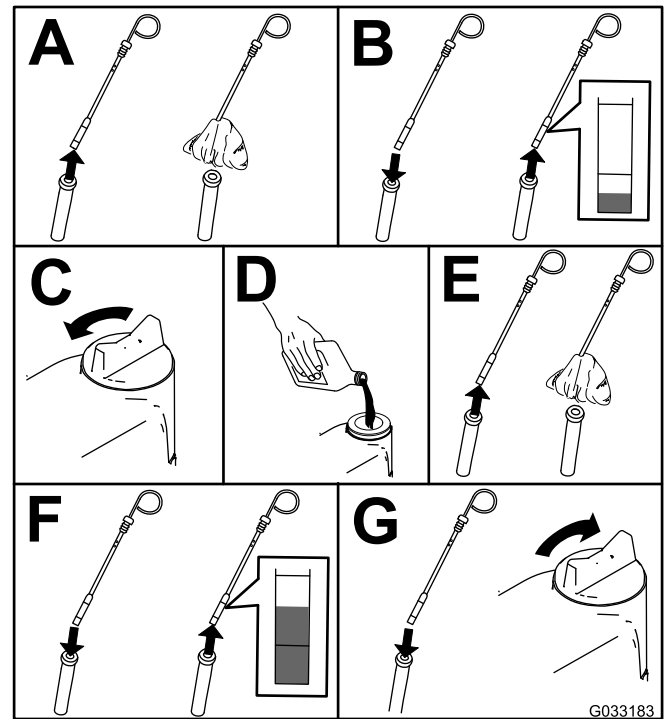

Figure 50
2. Check the engine-oil level (Figure 50).